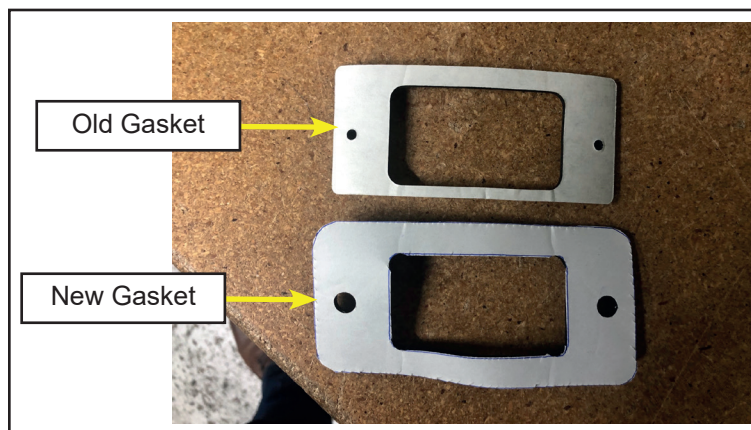

Figure 7 - Typical view of old gasket and new gasket
- 1.23. Install new gasket P/N 92004A802 which is larger than old gasket P/N 19401419 (See Figure 7).